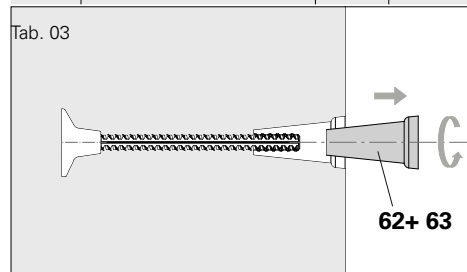

Fig. 15
2. Unscrew the climbing cone by hand and remove. (Fig. 15)